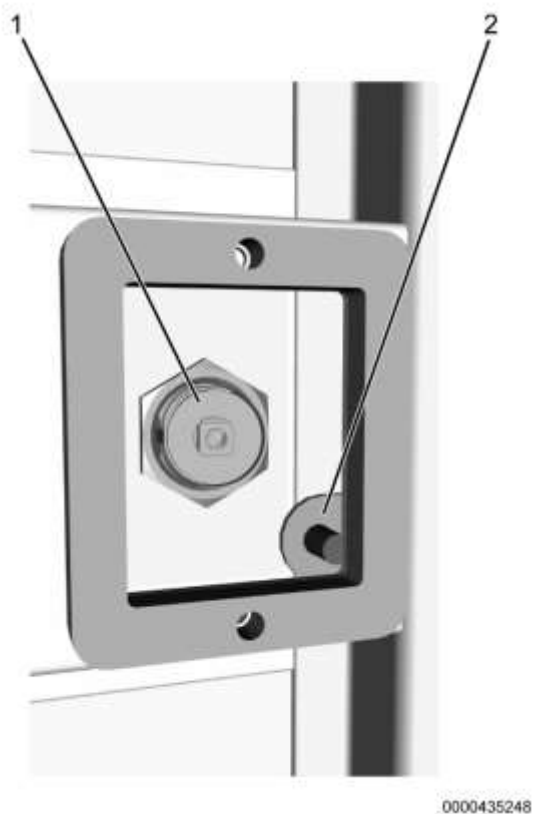

Figure 3. Latch and Weld Stud Bracket
9. Rest weld stud bracket (Figure 3, Item 2) inside horizontal door tube.
10. Remove and dispose of latch (Figure 3, Item 1).